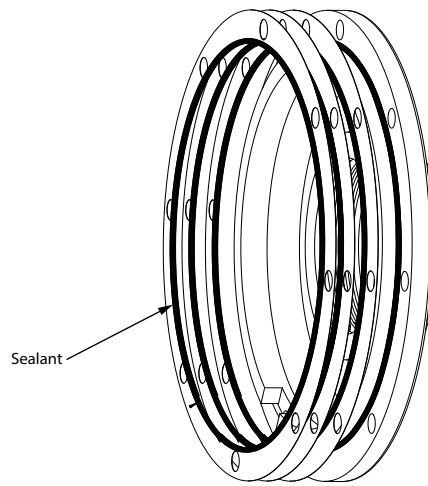

Figure 8-7: Sealant Application, 360° Around
LEF bearing assemblies require an additional shimming procedure to ensure proper operation. Before closing the housing and installing the end covers, use the following procedure to determine the correct number of shims. See Figure 8-7 for a drawing of the bearing assembly.
5. Special sealing is required for end-cover shims that are used on LEF seal units. After determining the correct number of shims, apply a 1/8" (3 mm) diameter bead of Loctite 518 sealant to the end-cover face (in the corner just above the lip that fits into the housing (Figure 8-7), 360° around), and to each shim.